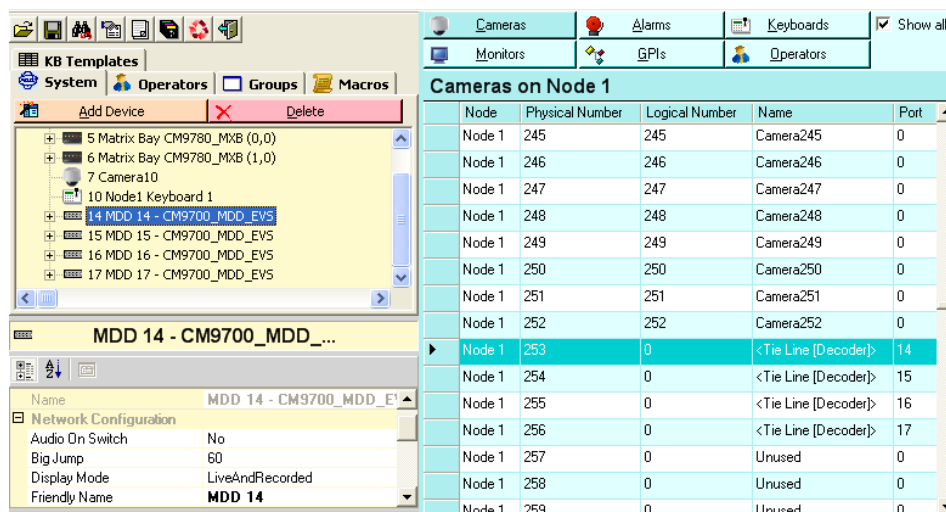

Figure 23. Sample CM9700MDD-EVS Units Added to the Matrix System
- Click Next, and then click Finish on the Add More Devices page. The specified number of CM9700MDD-EVS units is added to the node, as illustrated in Figure 23. Note that camera inputs 253-256 are assigned as the CM9700MDD-EVS tie lines.